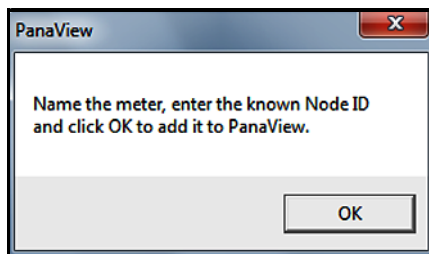

Figure 34: Confirmation Dialog Box
8. At the dialog box shown in *Figure 34* below, click on the [OK] button to add the meter and configure it.